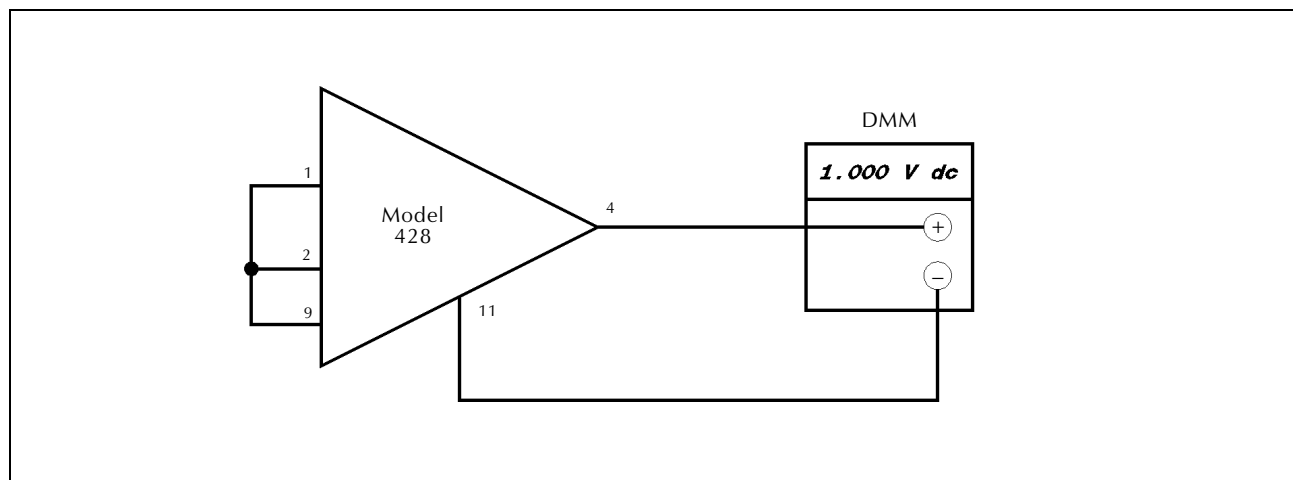

Figure 5-12
1. Connect the amplifier to be tested as shown in Figure 5-12.
1. Connect the amplifier under test as shown in Figure 5-12. Set its gain to 100 (128 for units equipped with Option G).
1. Connect the amplifier to be tested as shown in Figure 5-12, and set gain to the desired gain.